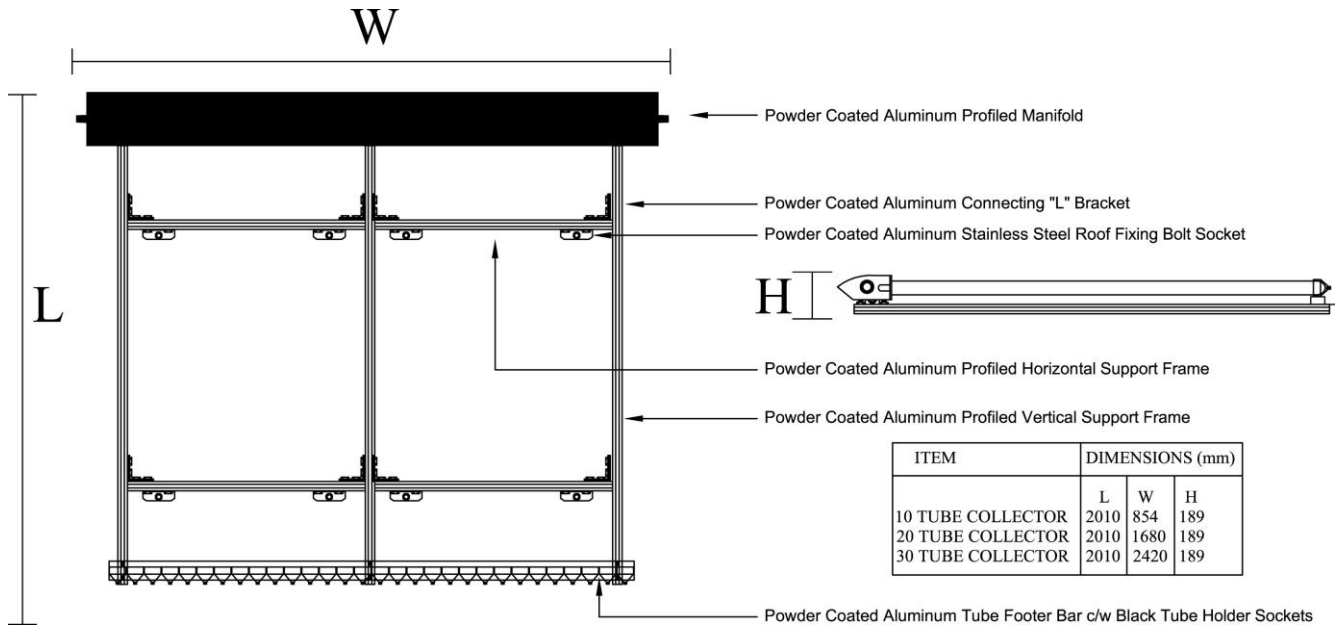

Figure 4: Joule Acapella Solar Collector Mounting Frame
The solar collector mounting frame is manufactured using profiled aluminium vertical and horizontal sections. See Figure 4. The manifold is made from pressed aluminium. The header is insulated using polyurethane (PU) foam.
- Each Joule Acapella collector mounting frame consists of vertical profiles, (3 vertical profiles per 20/30 tubes, 2 vertical profiles per 10 tube collectors) and horizontal profiles. The location of the horizontal profiles may be adjusted as required to allow roof bolts or roof hangers to line up with roof slates/tiles and roof structure as required. The horizontal profiles are locked to the vertical profiles using the "L" brackets as shown in Figure 4.